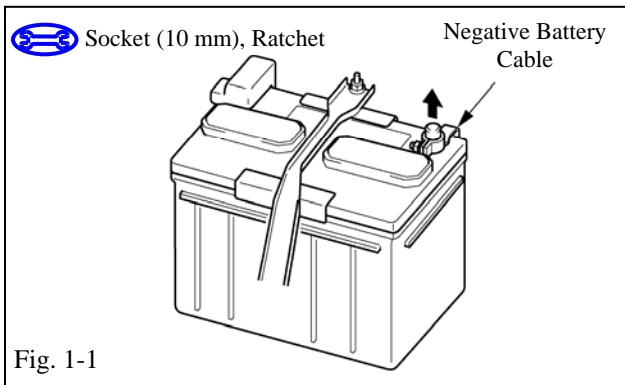

Fig. 1-1
(1) Set the emergency brake, and unlock all vehicle doors.
(2) Open the hood and apply protective covers to the fender/grill area by the battery.
(3) Remove the negative battery cable. (Fig. 1-1)